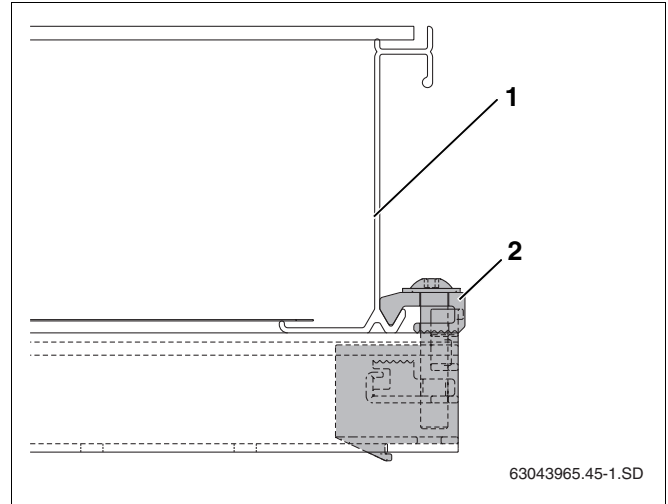

Fig. 47 One-sided collector clamp screwed in place
- ▶ Carefully push collector (Fig. 47, **Item 1**) up against the one-sided collector clamp and align horizontally.
- ▶ Screw in one-sided collector clamp using size 5 spanner (Fig. 47, **Item 2**).
The grip (Fig. 47, **Item 2**) on the collector clamp now grips the lower collector edge.